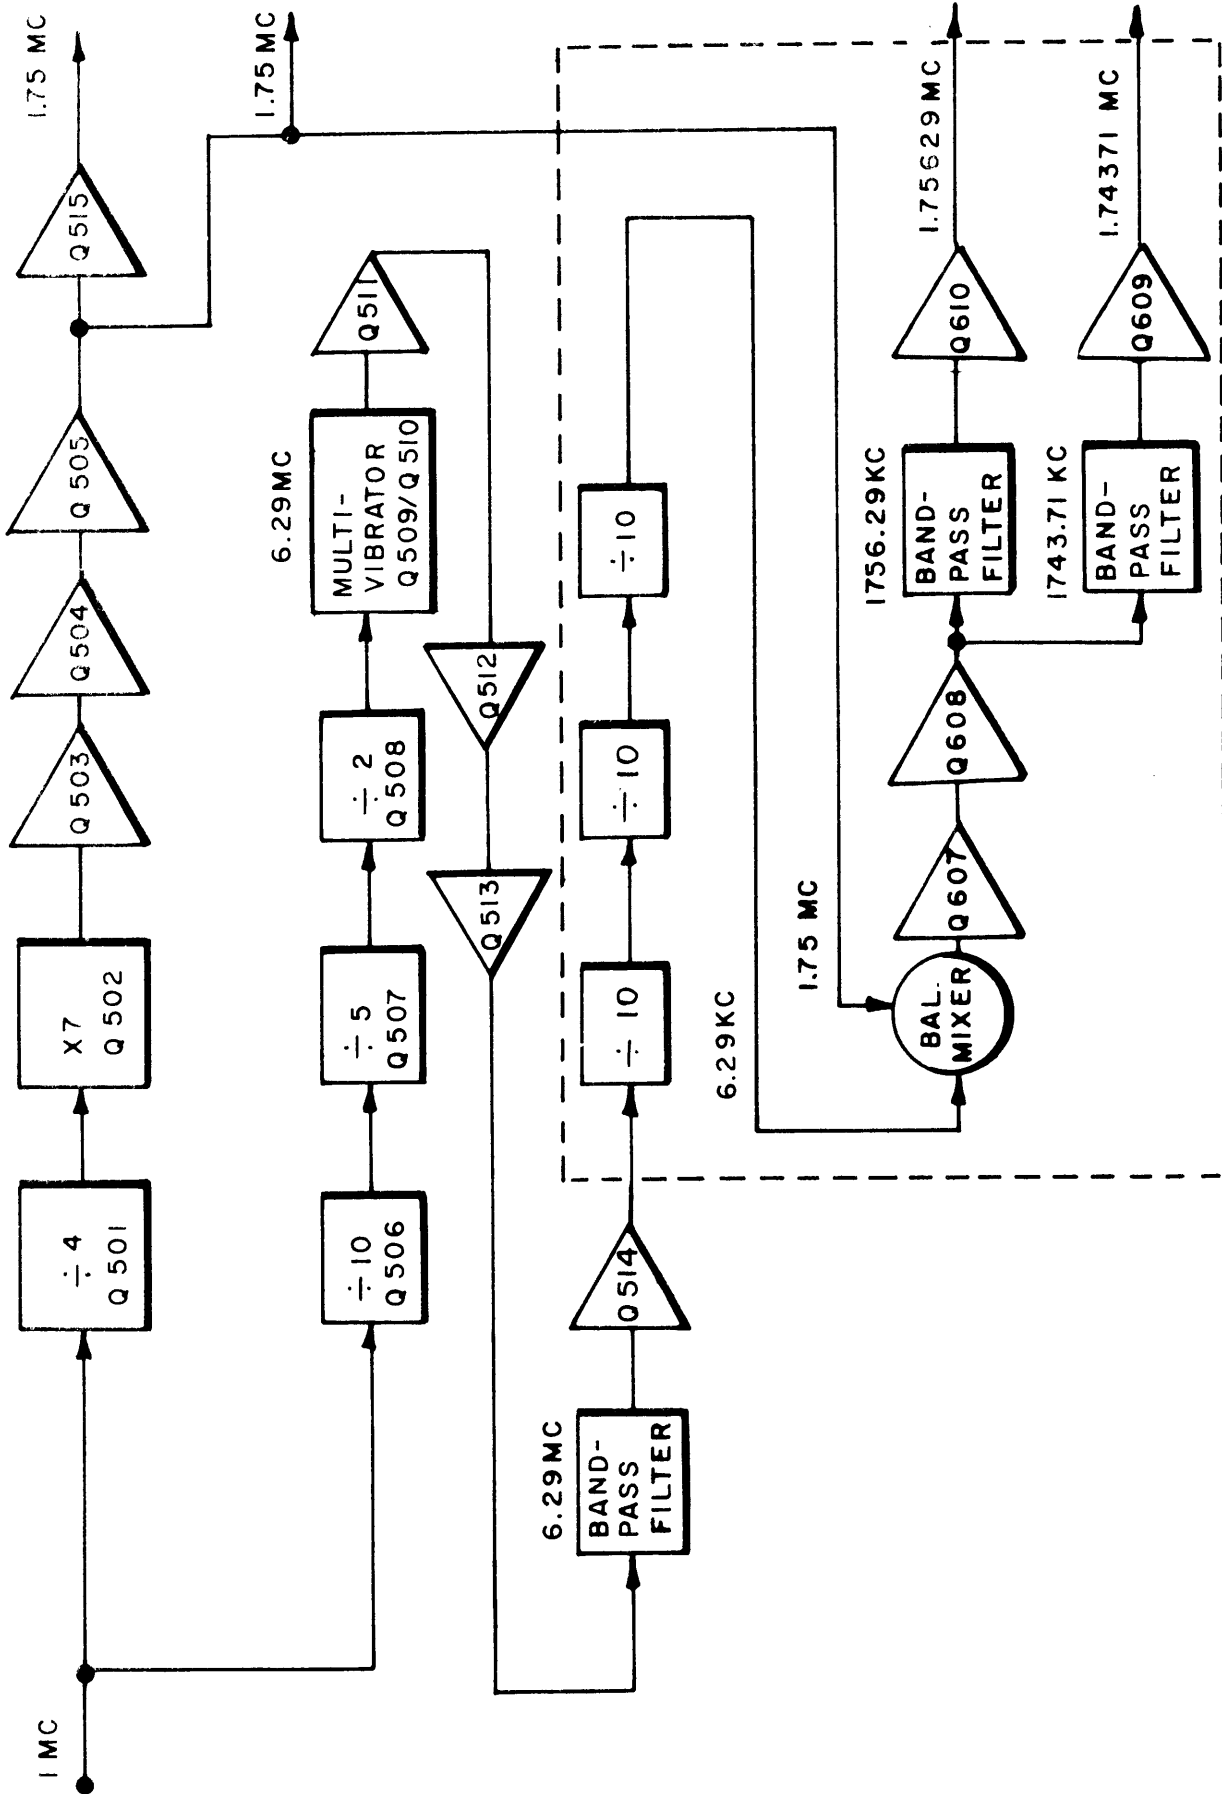

Figure 4-1. Block Diagram, Synthesizer Circuits, CMRA
a. SYNTHESIZER CIRCUITRY. - The synthesizer circuit produces the 1.75 mc carrier, and the 1.75629 mc and a 1.74371 mc offset carriers. As shown in the block diagram (figure 4-1), the 1 mc signal is first divided by four by a synchronized divider and the resulting 250 kc signal is then multiplied by seven, producing the 1.750 mc signal. The 6.29 mc signal is derived by first dividing the 1 mc signal by 100 (in three steps); the resulting 10 kc signal is used to trigger the 6.29 mc multivibrator. The multivibrator produces a spectrum centered about 6.29 mc, with spectral lines spaced at 10 kc intervals. The resulting spectrum is passed through the 6.29 mc bandpass filter which passes only the 6.29 mc spectral line and rejects the others by at least 60 db.
The 6.29 mc signal is divided by 1000 (using three synchronized dividers, each dividing its incoming signal by ten) to produce the 6.29 kc signal, which is applied, with the 1.75 mc, to a balanced mixer (as shown in figure 4-1). The balanced mixer provides the following outputs: 1.75 mc,  $1.75 \text{ mc} \pm 6.29 \text{ kc}$ ,  $1.75 \text{ mc} - 6.29$  and other harmonic multiples. Appropriate bandpass filters select the 1.756290 mc and 1.743710 mc signals, which are then amplified to